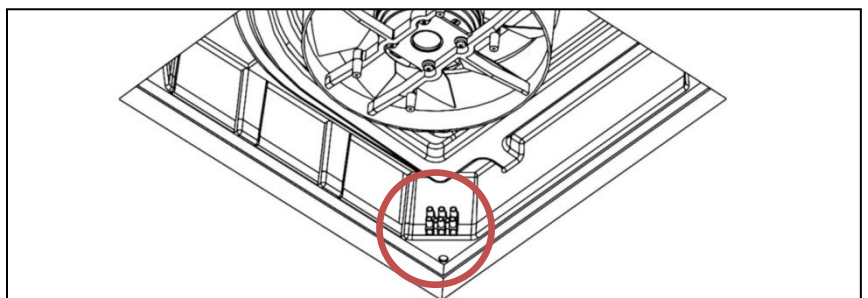
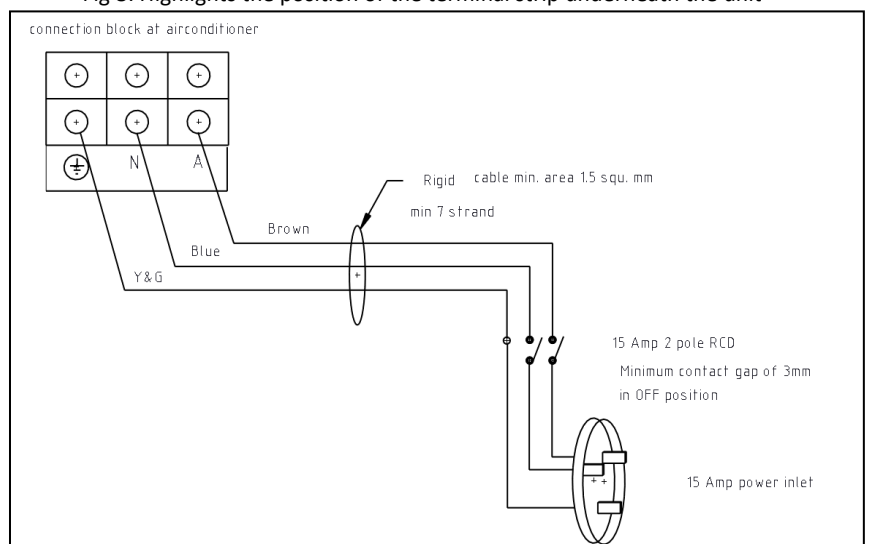

Fig 8: Highlights the position of the terminal strip underneath the unit
Fig 9: Shows the positioning of the electrical wires into the terminal strip
- Refer to wiring diagram (Fig 9). Refer Fig 8 for position of terminal block
- Connect electrical supply to terminal block. Note position of active, neutral and ground wires (Fig 9)